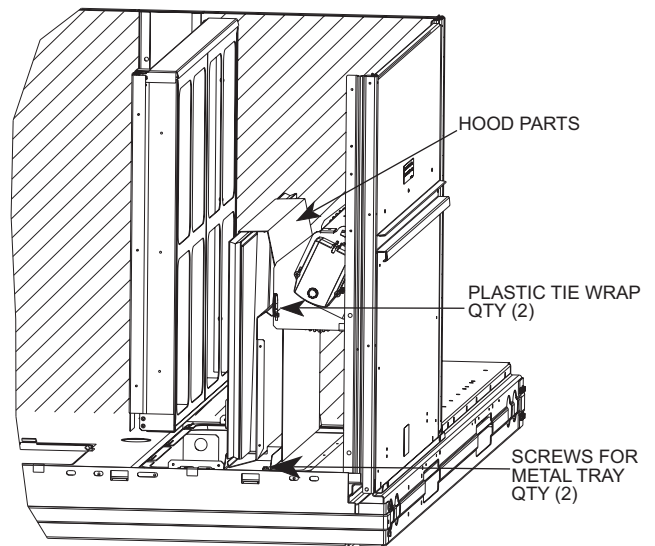

Fig. 12 — Damper Assembly
2. Locate the (2) screws holding the metal tray to the basepan and remove. Locate and cut the (2) plastic tie-wraps securing the assembly to the damper. (See Fig. 12.) Be careful not to damage any wiring or cut tie-wraps securing any wiring.